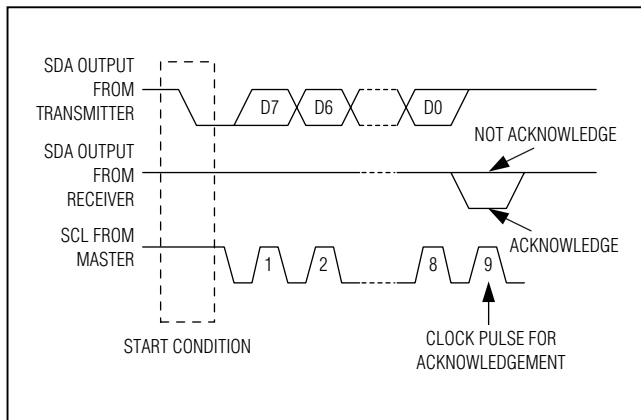

Figure 13. I2C Acknowledge
Both the master and the ICs (slave) generate acknowledge bits when receiving data. The acknowledge bit is the last bit of each 9-bit data packet. To generate an acknowledge (A), the receiving device must pull SDA low before the rising edge of the acknowledge-related clock pulse (ninth pulse) and keep it low during the high period of the clock pulse (Figure 13). To generate a not acknowledge (NA), the receiving device allows SDA to be pulled high before the rising edge of the acknowledge-related clock pulse and leaves it high during the high period of the clock pulse.